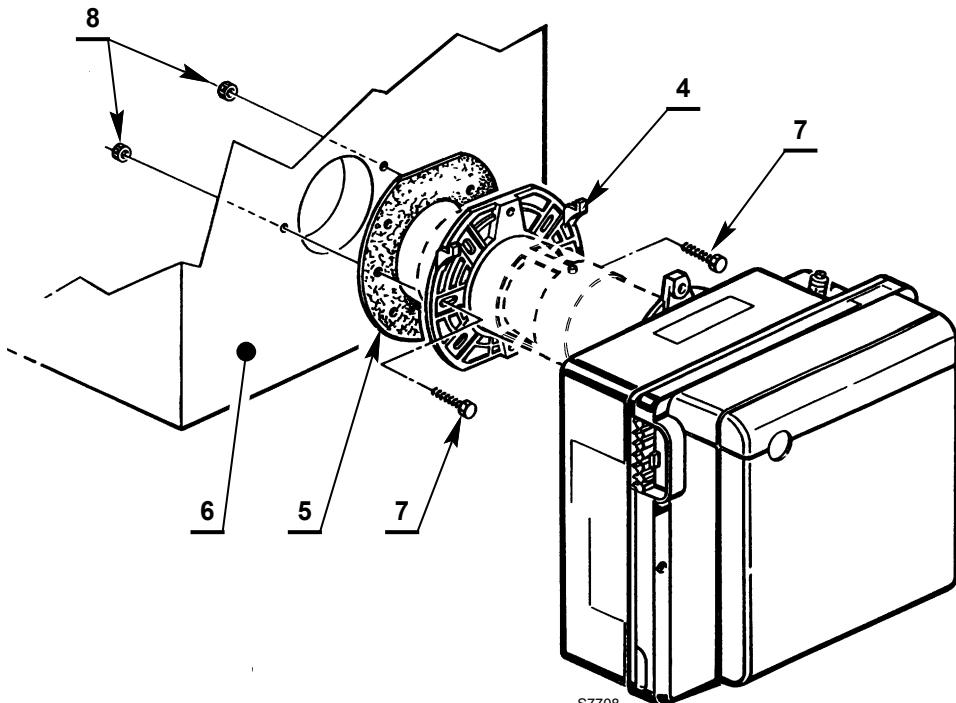

Fig. 10
- To the door of the boiler 6)(Fig. 10) fix the flange 4) using the screws 7) and (if necessary) the nuts 8) placing the insulating gasket 5) in-between.